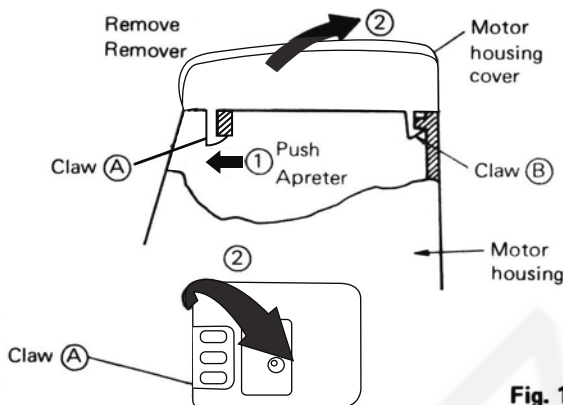

Fig. 1
1. Motor Housing Cover , Micro Switch Base & Switch (Fig 1, 2, 3).
- Push **claw (A)** as indicated by ⇒ ① of Fig 1 and then remove it, followed by removal of **motor housing cover** being done as ⇒ ②.